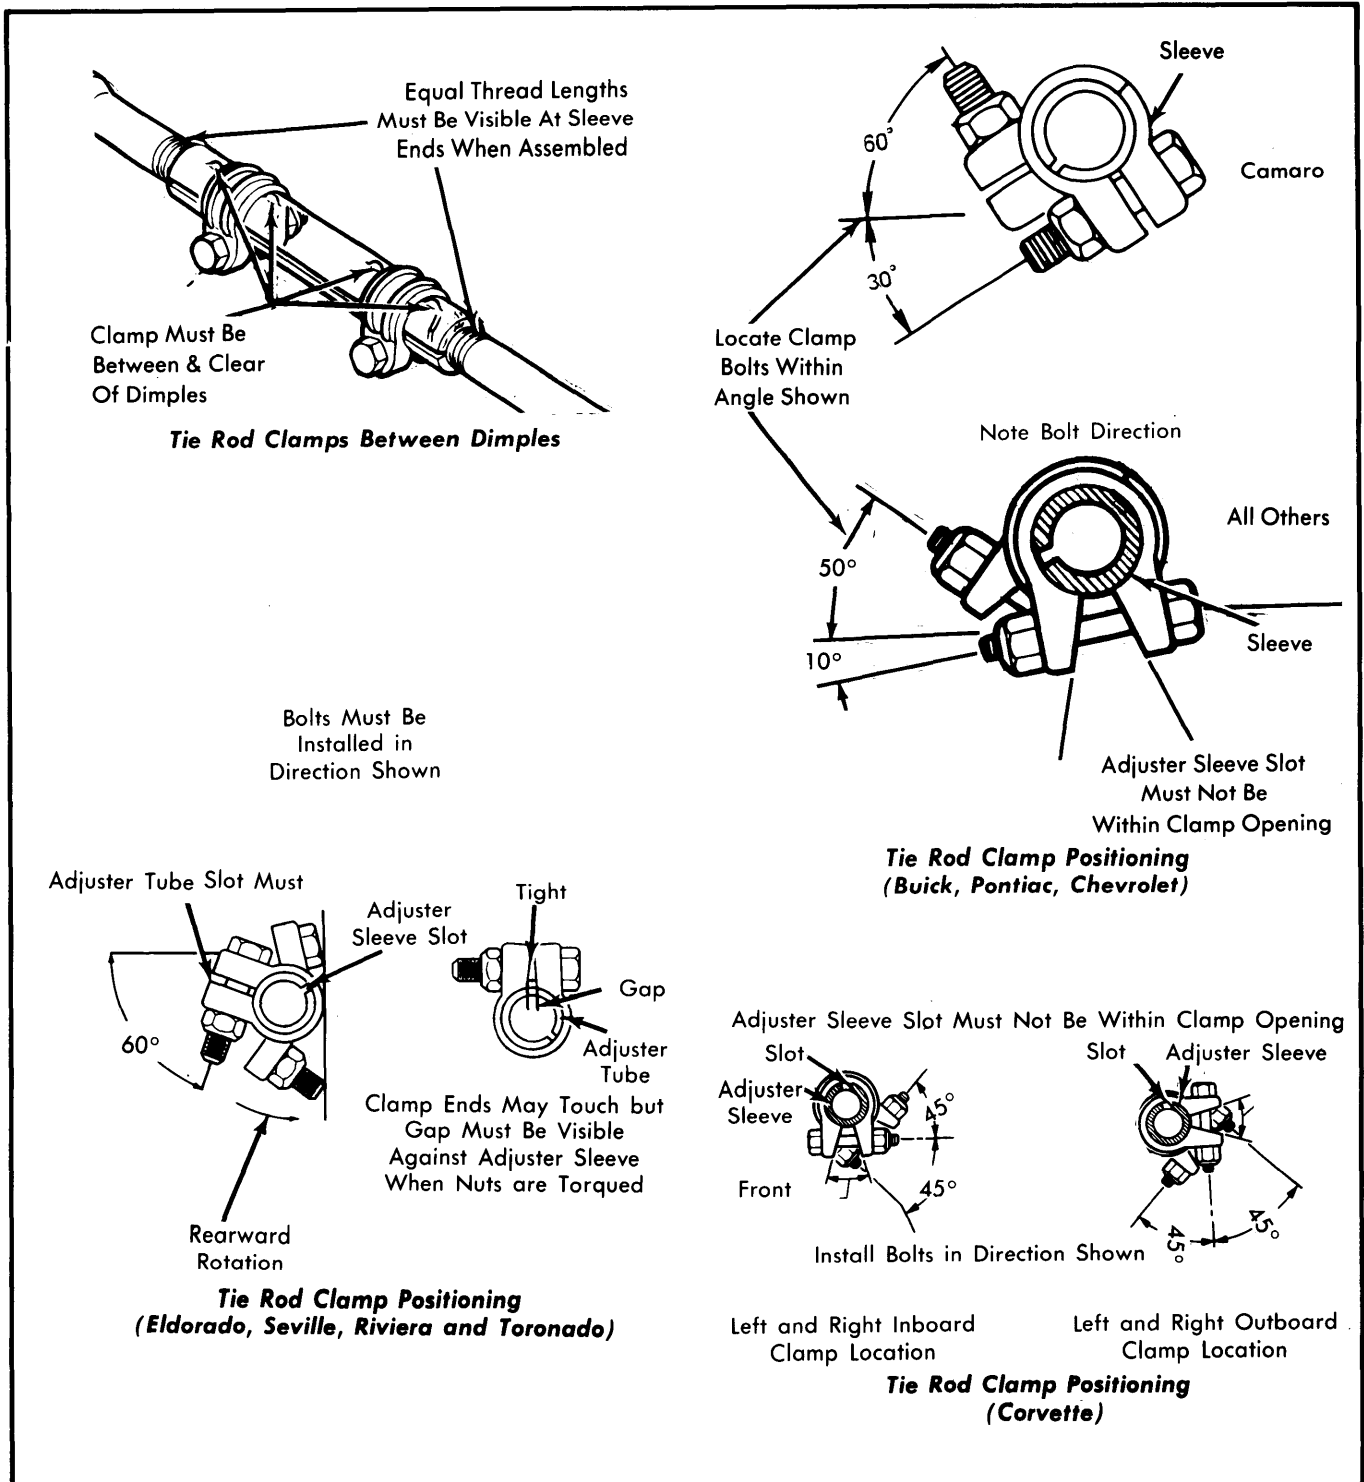

Fig. 11 Toe-In Adjuster Tube Clamp & Bolt Position
3) When adjustment is completed, check to see that the number of threads showing on each end of sleeve are equal and that the tie rod end housing are at right angles to steering arm. Position tie rod clamps and sleeves as shown in Fig. 11. Tighten to specifications.